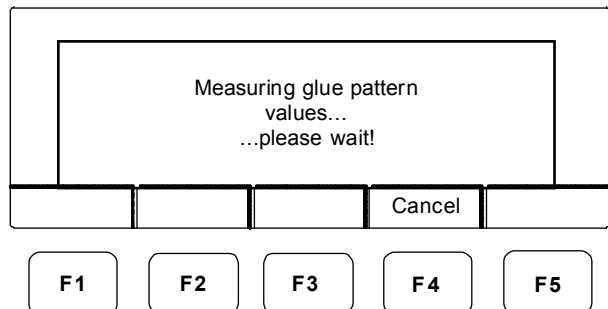

Figure 13-19.
3. Press F2 (Yes). The measuring cycle starts and the “Measuring glue-pattern values...please wait” message displays (Figure 13-19).